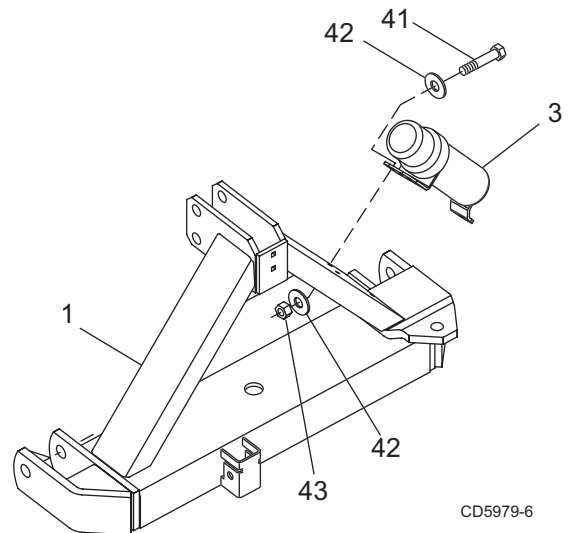

Figure 11. Manual Tube Installation
1. Place manual tube (3) over holes on right side of A-Frame as shown in Figure 11.
2. Secure into position using three cap screws (41), six flat washers (42), (one on each side), and lock nuts (43).